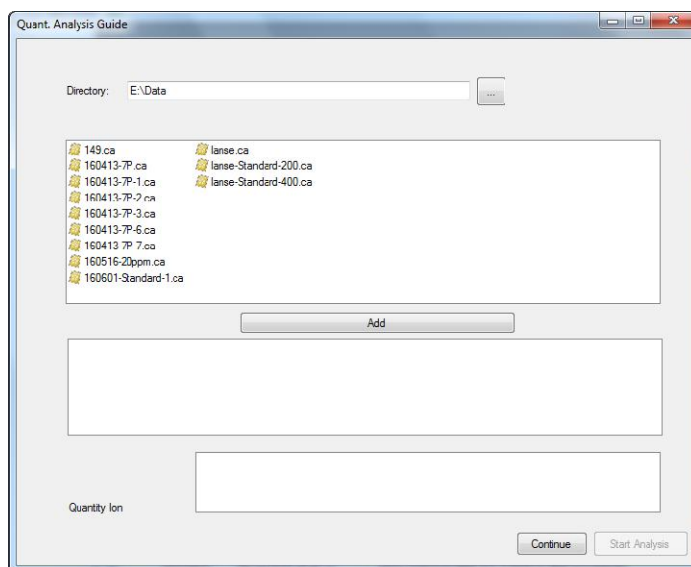

Figure 7-16 Quantitative Analysis Guide
(1) Click [Quantitative Analysis], [Quantitative Analysis Guide], a window will pop up as shown in Figure7-16.